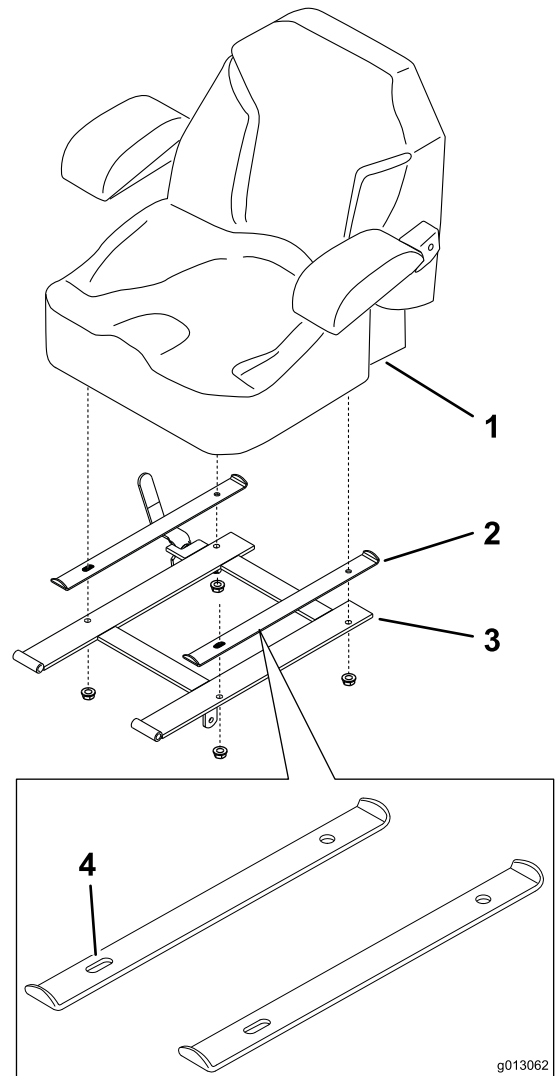

Figure 9
5. Remove the seat frame and spacers from the existing seat by removing the four locknuts (Figure 9). Discard the seat frame and keep the locknuts and spacers.